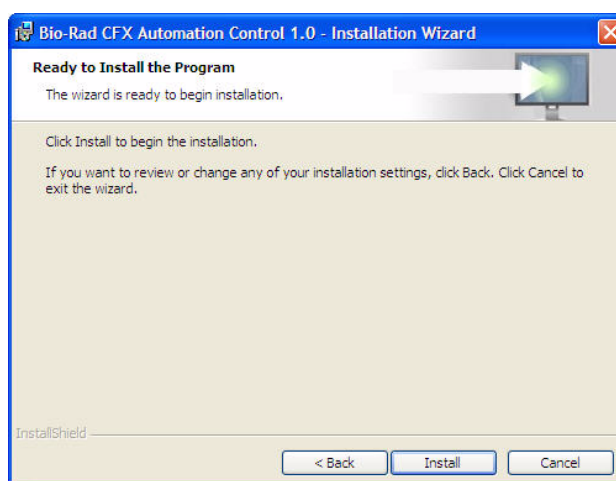

Figure 14. Software installation.
- The wizard is now ready to begin installation. Click **Install** to install the software program in the specified destination folder (Figure 14).